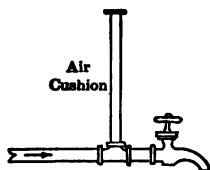

FIG. 68. — Air cushion prevents "pounding."
5. A pipe is sometimes fitted to the water pipe near the faucet, as shown in Fig. 68. How does such a pipe, which contains air,